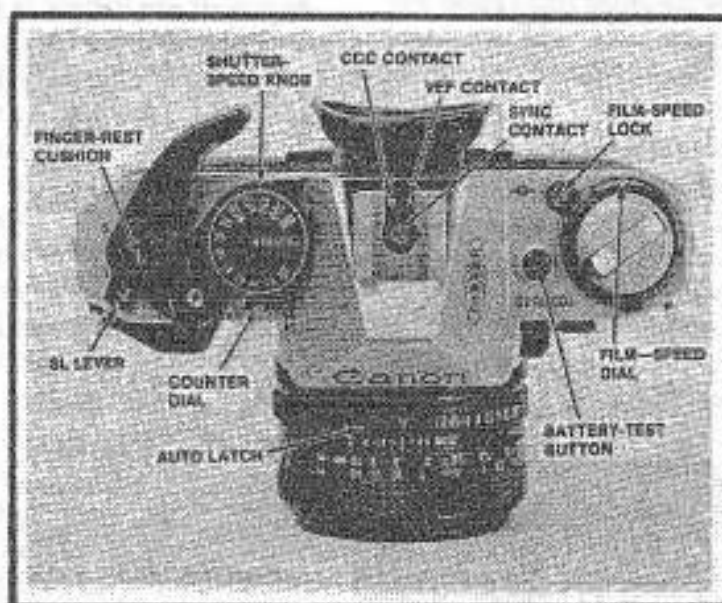

Figure 2
1. Dedicated flash. Check by connecting a 4.7K resistor between ground and the CCC hot-shoe contact, Fig. 2. When you push the release button part way, the lightning-flash and *f*/4 LEDs should turn on. The camera should deliver the flash speed of 1/60 regardless of the speed-knob setting (except at bulb). If not, suspect a defective IC2 or poor solder connections to the CCC contact.